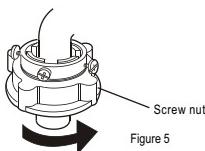

Figure 5
- 5 Twisting the fastening nut, See to Figure 5. After twisting, the threading is less than 2mm above the upper surface of the nut.